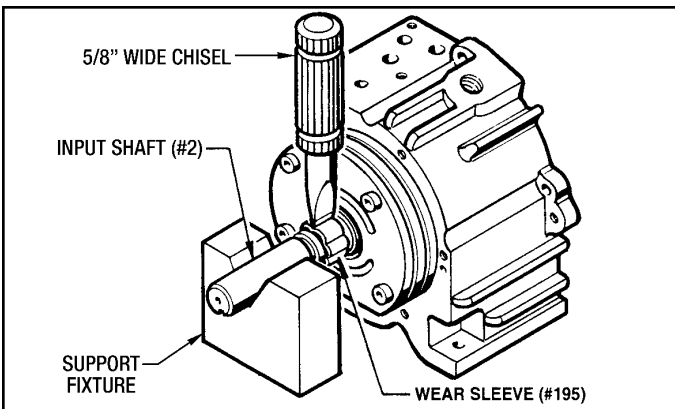

Figure 7.03 - Removing Wear Sleeve (#195)
- Check the Wear Sleeve (#195) on the Input Shaft. If the Wear Sleeve is damaged and needs to be removed use the following procedure. (See Figure 7.03)